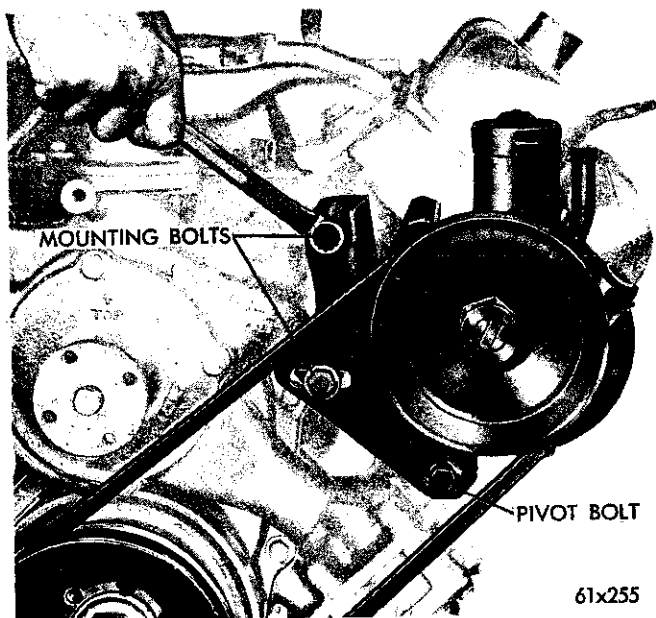

Fig. 21—Loosening the Pump Bracket Mounting Screws
(1) Loosen the adjustment bracket to engine mounting bolts (Fig. 21).